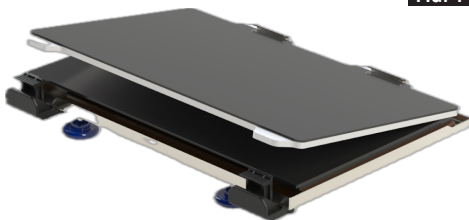

FIG. 1
2. Insert the aluminum build plate (magnet side up) at an angle, aligning the notched tabs in the back then pressing down on the front until the tabs snap in to place. **FIG. 1.**